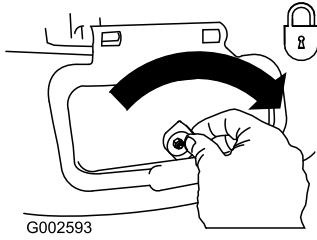

Figure 38
**Important:** Lock the side discharge door after you close it (Figure 38).